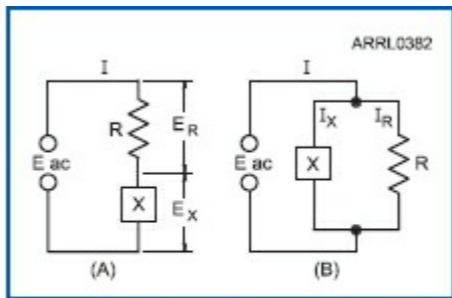

Figure 4.18 — Series and parallel circuits may contain resistance and reactance.
A circuit's reactance and resistance may be connected in series or in parallel, as shown in **Figure 4.18**. In these circuits, the reactance is shown as a box (X), to indicate that it can be either inductive or capacitive. In the series circuit shown at A, current is the